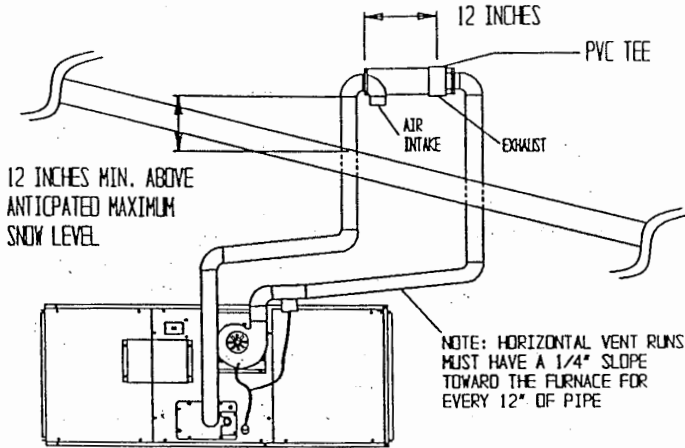

FIGURE 8
- 4). All units regardless of vent configuration must use the secondary exhaust pipe drain (supplied) as shown in Figures 8 and 9. This insures proper drainage of the condensate that collects in the exhaust pipe.
- B). The termination clearances shown in Figure 8 are maintained.
The inlet of the intake pipe and the end of the exhaust vent must terminate no less than 12" above the roof or snow accumulation level, and 12" away from a vertical wall or other protrusion (See Figure 8). In all venting configurations use the recommended vent termination kit (supplied).